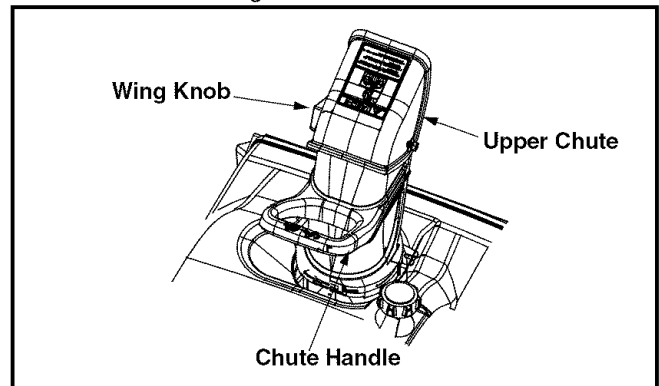

Figure 5
- Position the chute assembly opening by using the Chute Handle to throw the snow in the desired direction. See Figure 5.